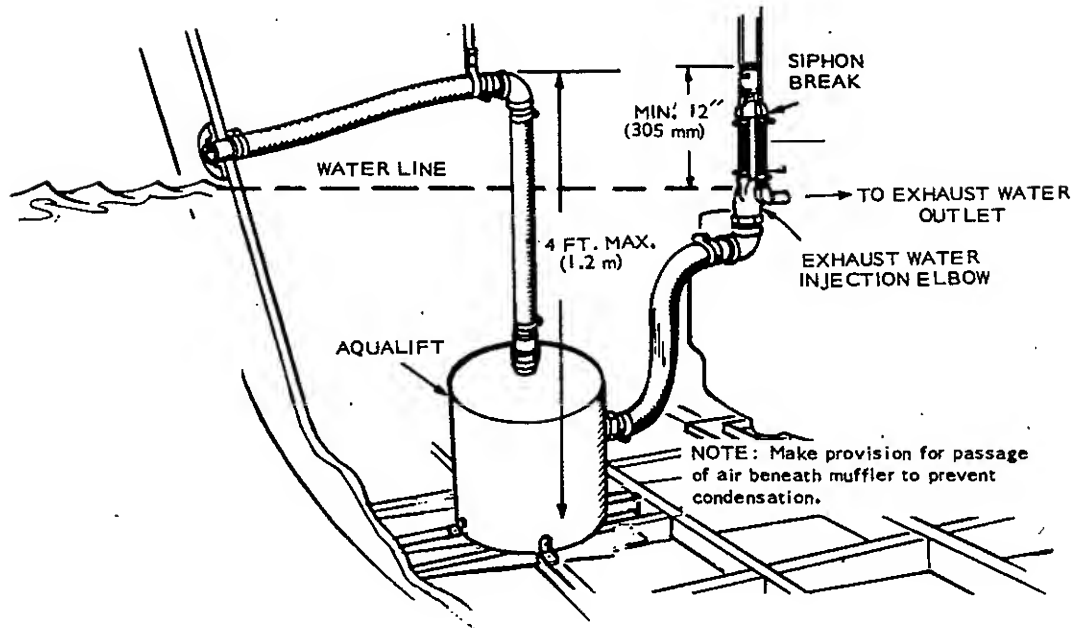

FIGURE 6-43. AQUALIFT INSTALLATION WITH SIPHON BREAK
3. Connect exhaust water discharge hose between engine water outlet (raw water, aqualift, or heat exchanger) and siphon break inlet elbow, Figure 6-43. Turn elbow or replace with straight fitting to prevent crimps in hose.